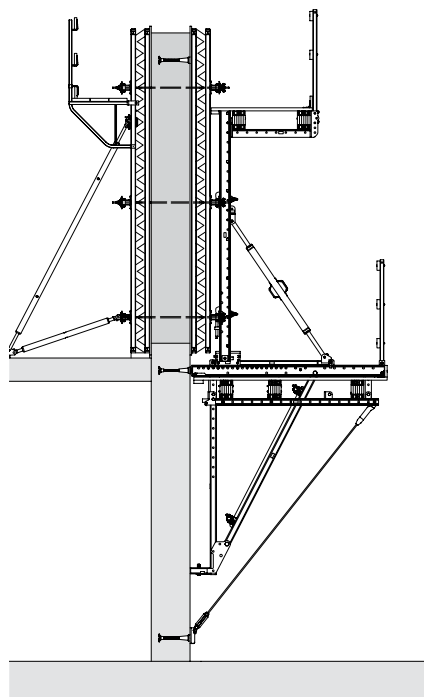

Fig. 09
12. Concrete second section. (Fig. 09)